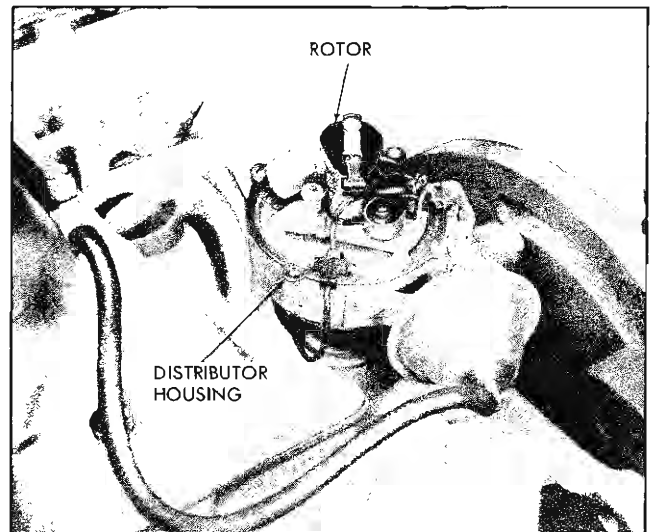

Fig. 11-39 Rotor in No. 1 Firing Position
3. Crank engine so rotor is in position to fire No. 1 cylinder (Fig. 11-39) and timing mark on harmonic balancer is indexed with pointer.
3. Before installing distributor, index rotor with housing as noted when distributor was removed. This will simplify indexing the distributor shaft and gear with the oil pump drive shaft and the drive gear on the camshaft. Distributor and rotor will be positioned as shown in Fig. 11-39 when properly installed with No. 1 piston in firing position.